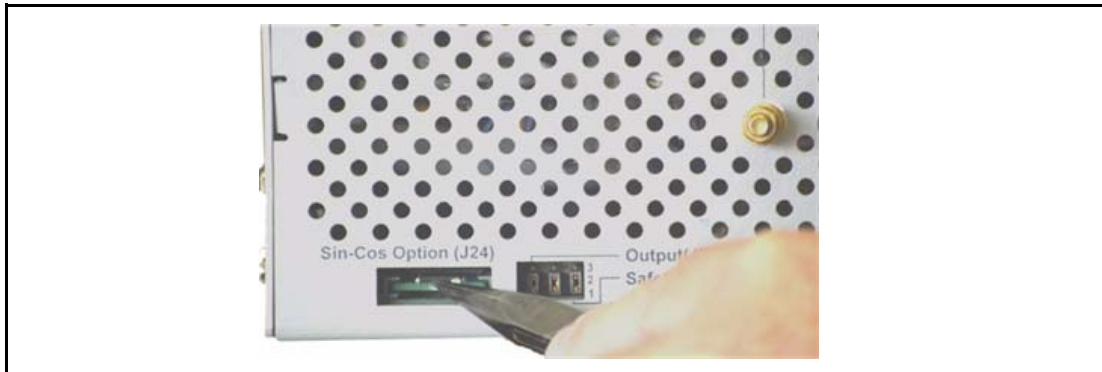

Figure 68 Sin-Cos Module in Place
4. With a needle nose pliers or similar tool, use hand force and push in the module as illustrated in Figure 68.